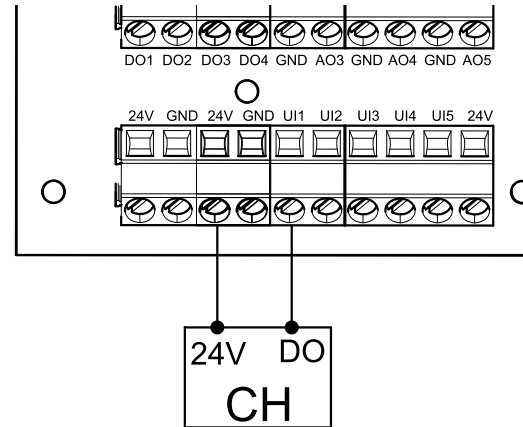

Fig. 3 Connection of the cooker hood
1. Connect control signal wires from the cooker hood to any free universal input and 24 V on the external connection board (figure 3). For more information about connection board see 8.2 *External connections (Connection board)*, page 48.